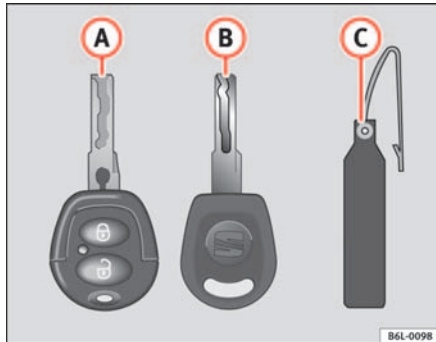

Fig. 45 Set of keys
- a key with a remote control ⇒ fig. 45 (A),
- one key without remote control (B),
- one key tab (C) with the key number.
Spare keys cannot be issued without the key number on the key tab ⇒ fig. 45 (B). Therefore: